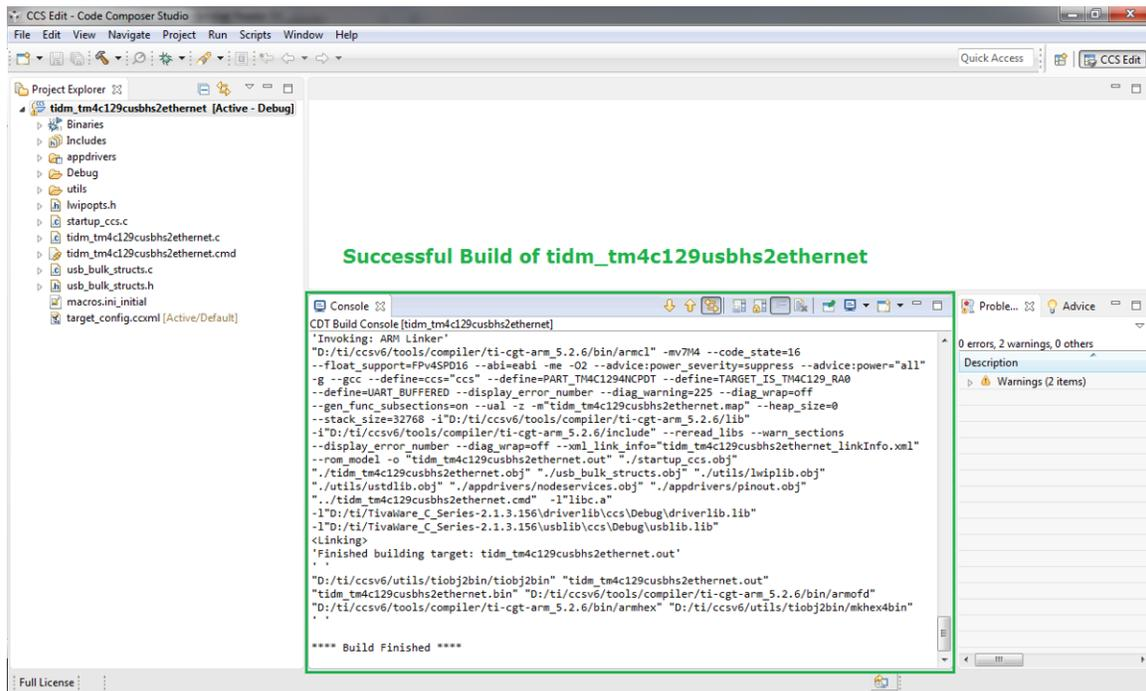

Figure 14. Compiling tidm_tm4c129usbhs2ethernet Project
- Right-click the project in the Project Explorer and click *Build Project*. If the building the library for the first time, it may take a few minutes. After the compilation is successful, the CCS console must display the following message (see Figure 14).